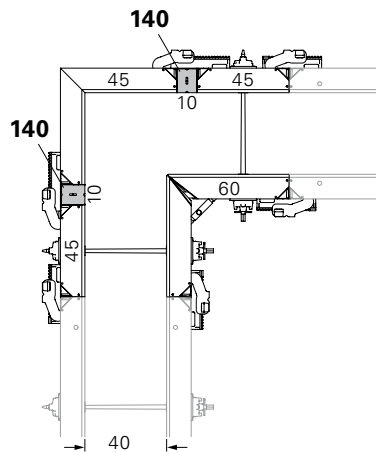

Fig. B2.08
- Wall thickness 40: Fig. B2.08